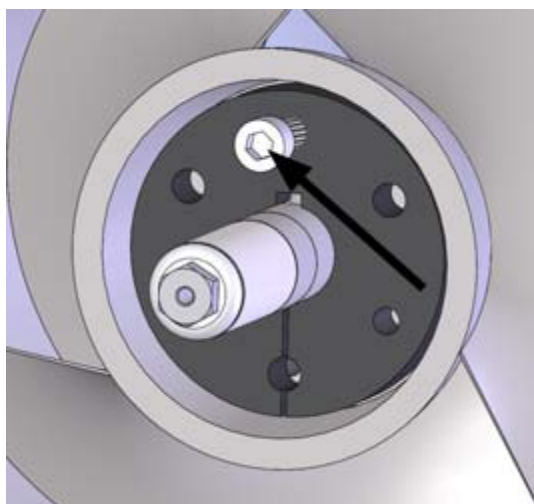

Figure 45. Removing the Impeller
2. Insert one of the screws into the threaded hole (figure 45) and tighten until the cone comes loose.